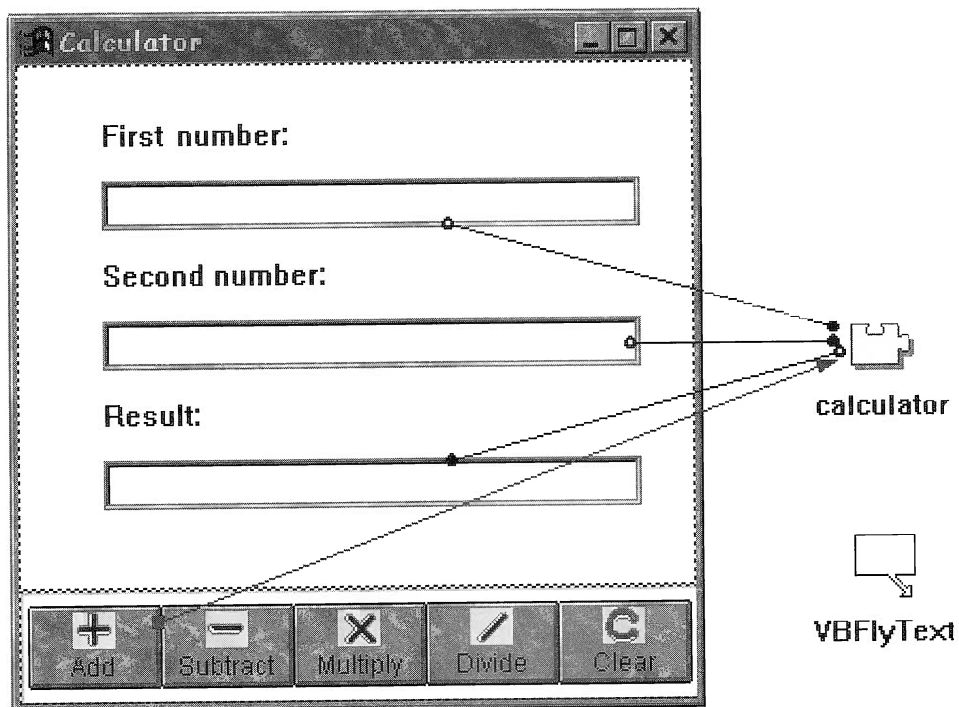

Figure 76: Added IVBFlyText control
- ❑ From the **Other** category, select the **IVBFlyText*** control, and place it anywhere on the free-form surface, as shown in Figure 76.